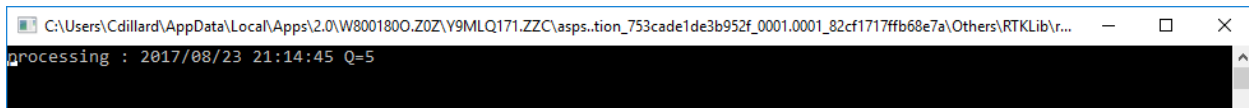

Figure 22 - Processing - Q5 Solution
- c. Third, GNSS trajectory is computed. Sometimes, Global Navigation Satellite Systems (GNSS) can lose signal strength during a flight, which can result in poor positional information. This step helps to smooth out positional data when signal loss occurs. During this step a command window will open (Figure 22). It may take a few seconds before the process starts to run. The window will close automatically once the process has completed.